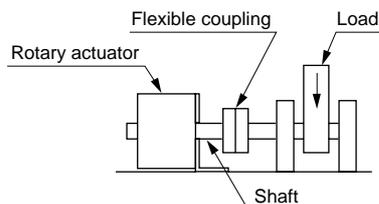

Fig.2 Radial load
If such a load is unavoidable, use a structure conveying only rotation as shown in Fig. 2.
- (2) Separate the seal washer from the cap (2) as shown in Fig. 2.